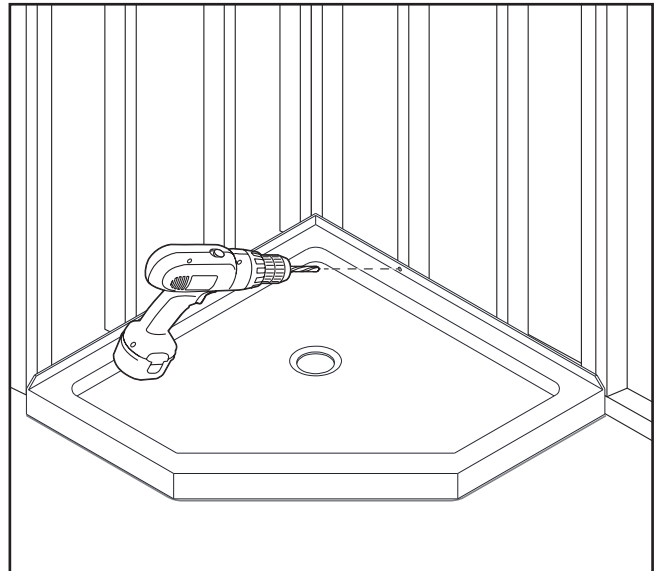

Fig. 3
- Drill 3/16" holes at all stud locations on top flanges. (Fig 3)